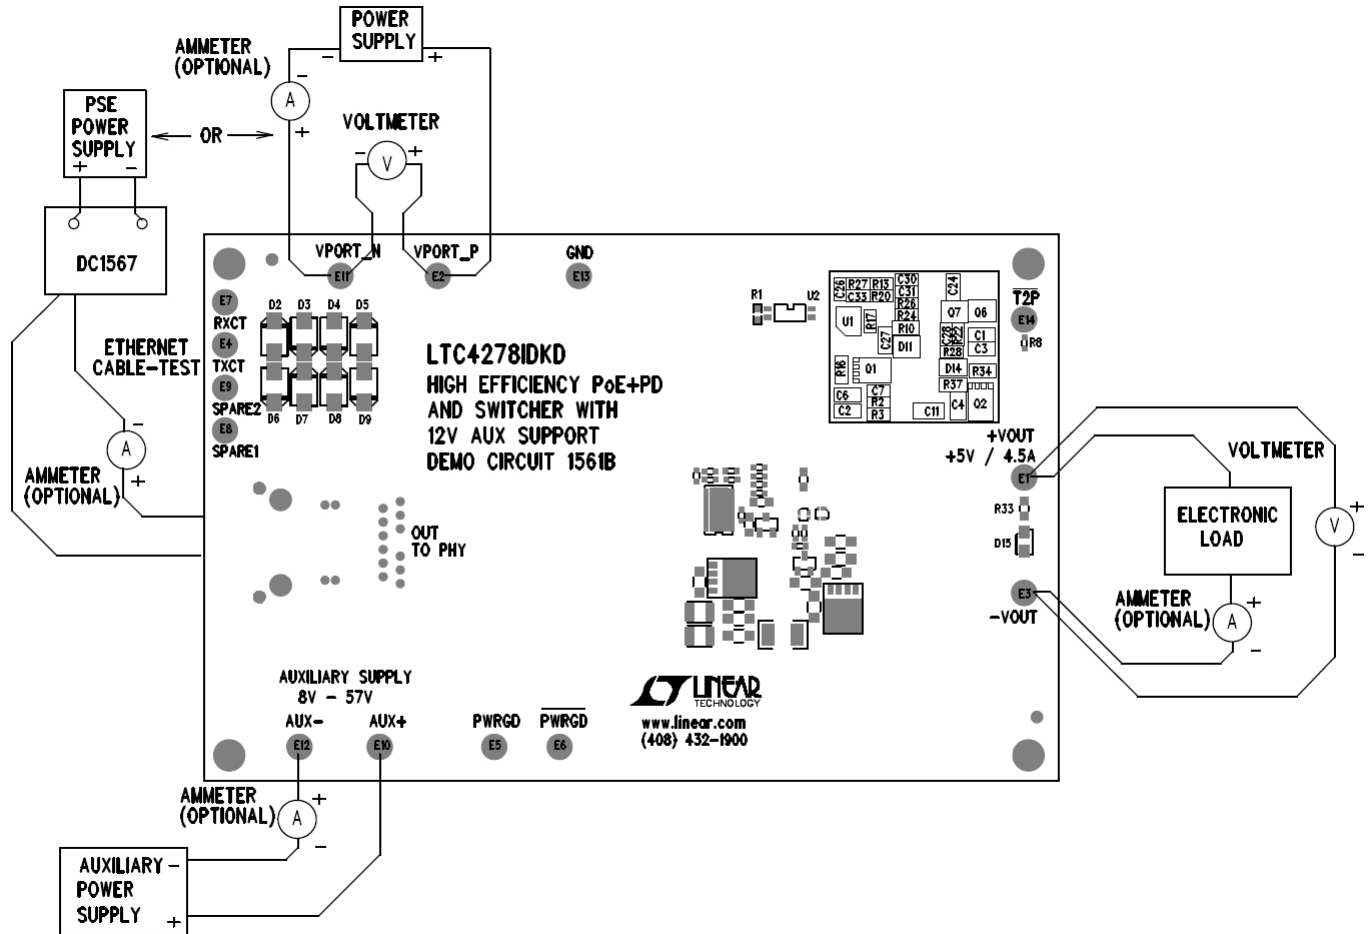

Figure 1. Proper Measurement Equipment Setup
Demonstration circuit 1561B is easy to set up to evaluate the performance of the LTC4278 in a PoE+ PD application. Refer to Figure 1 for proper equipment setup and follow the procedure below:
- a. Connect a PoE+ capable PSE, like the DC1567, with an Ethernet cable to the RJ45 connector, J1. See Figure 1.
- b. Or, connect a 37V to 57V capable power supply (Power Supply in Figure 1) across VPORT\_P and VPORT\_N.
- c. Or, if evaluating the auxiliary power supply capability, connect a 9V to 57V at 4A capable power supply across AUX+ to AUX- (Auxiliary Supply in Figure 1).